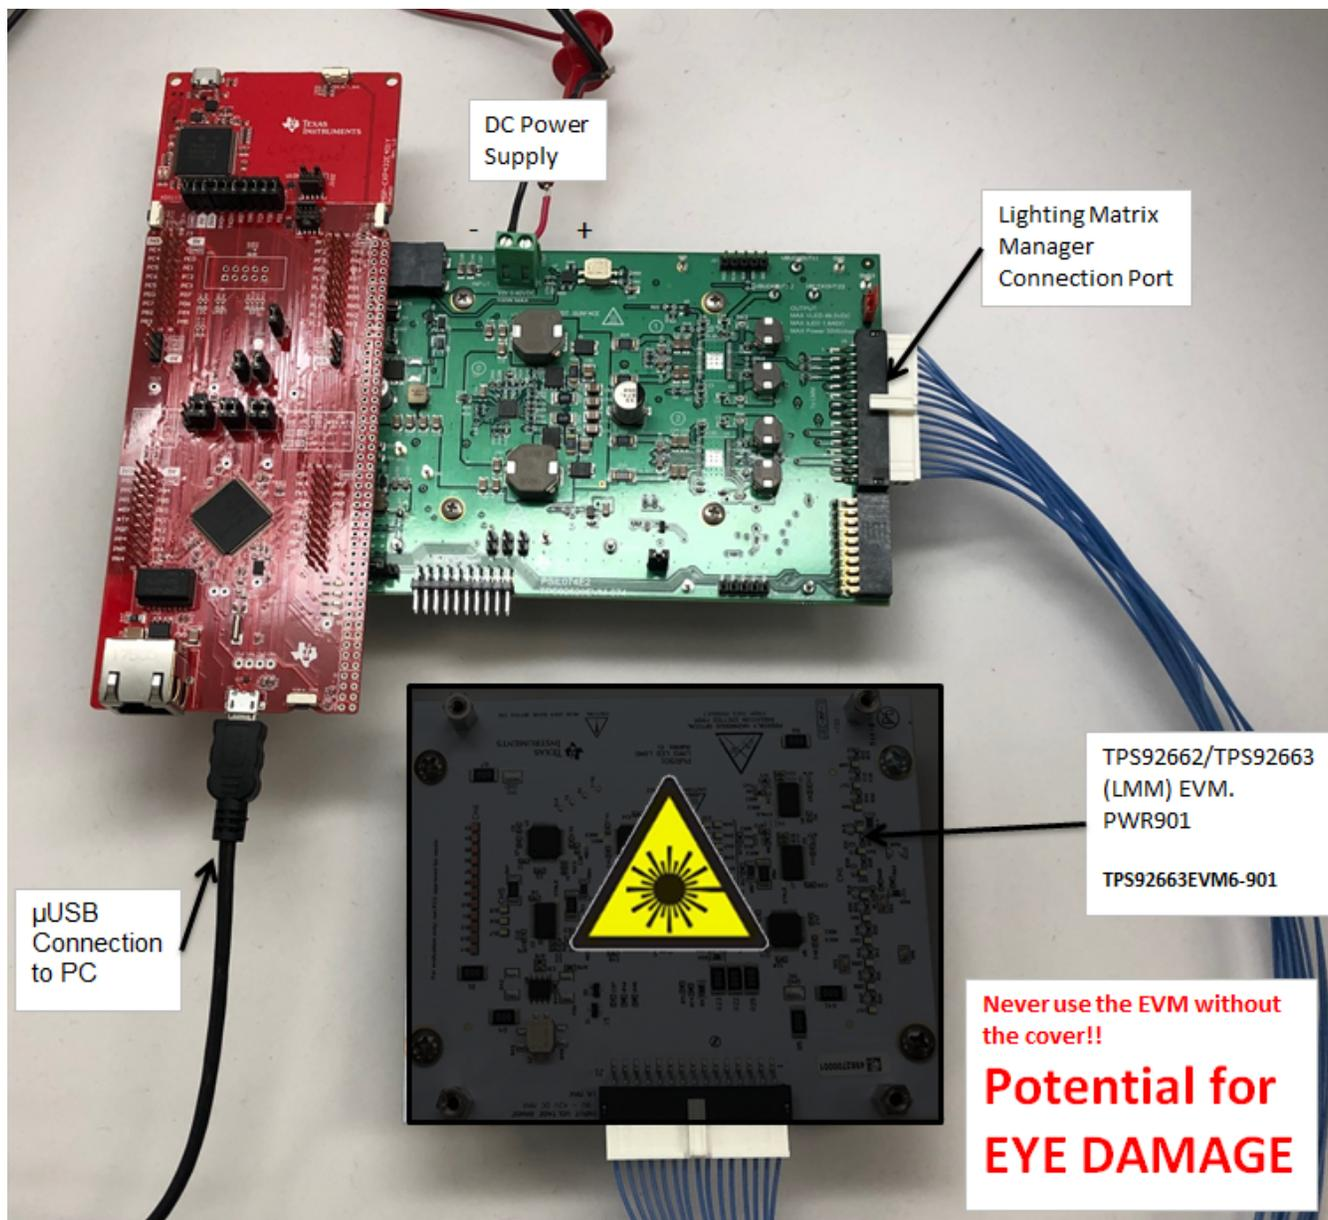

Figure 34. LaunchPad Connection to the TPS92520EVM-074 and PWR901 Matrix Manager EVM
- b. Figure 34 shows the Lighting Matrix Manager EVM containing the TPS92662 and TPS92663. The EVM can be requested via the TPS92663 EVM page.
1. Connect LED loads to the output terminals as shown in Figure 34. For example, choose **520-B1C1** in the upper right corner of the EVM.
2. If the load was not present when the GUI was opened, close the GUI and re-open with the load attached. See Figure 34.